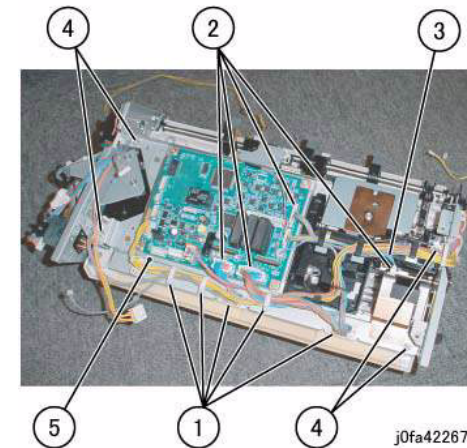

Figure 2 Moving the Bottom Plate
8. Remove the Bottom Plate (Figure 2):